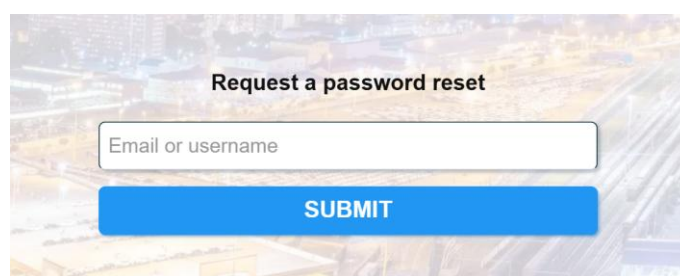

Figure 7 Request password reset
2. The Password Reset Request window will appear (see Figure 7)